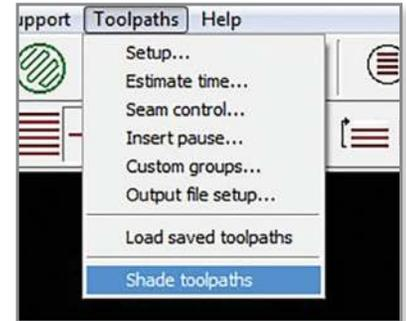

Figure 3: Toolpaths menu.
**STEP 6:** Under the *Toolpaths* menu, select *Shade toolpaths* (Figure 3).